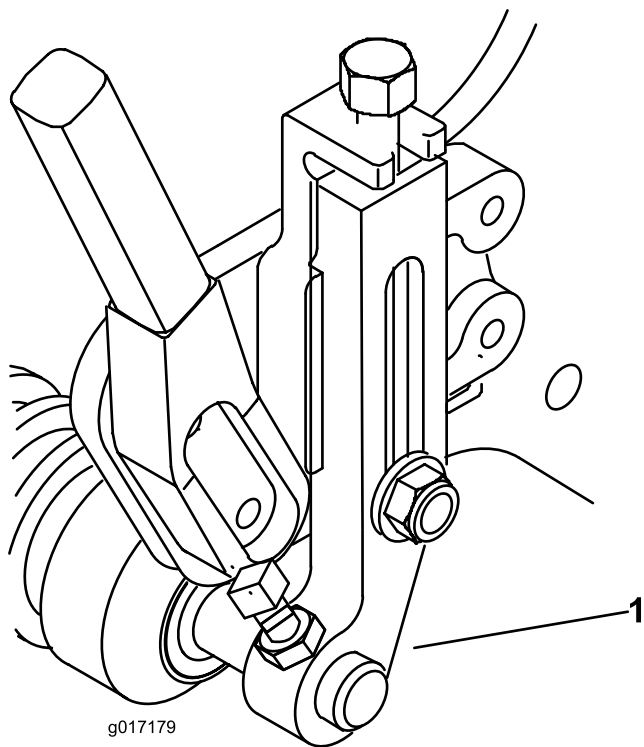

Figure 2
4. On Greensmaster 1600 only, install the new height-of-cut arms and roller assembly with the height-of-cut adjusting screws, jam nuts and set screws previously removed (Figure 2).
On Greensmaster 800 and 1000, install the height-of-cut arms previously removed. The height-of-cut arms on both models are to be rotated to the forward position as shown in Figure 2.